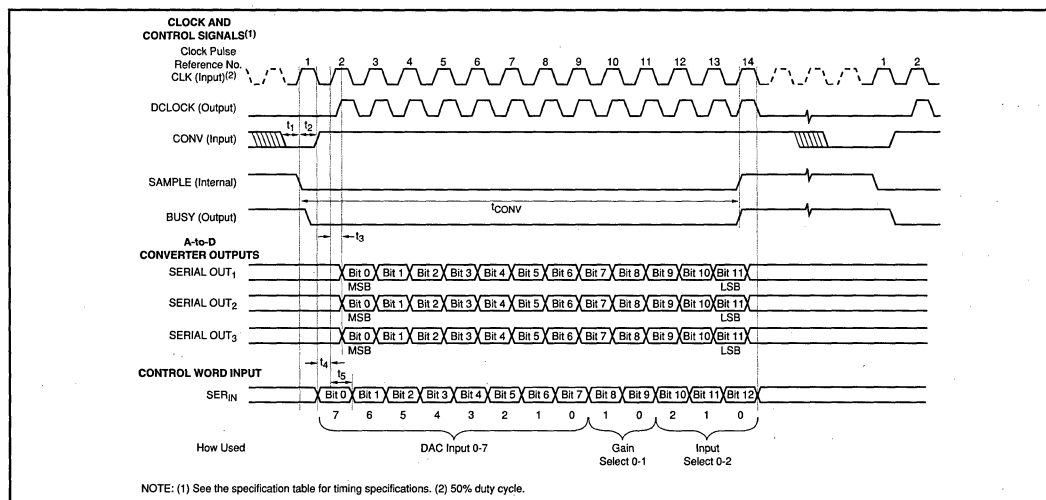

FIGURE 2. Timing Diagram.
The ADS7833 contains seven sample holds. Five of them (SH₁ through SH₅) sample simultaneously and have their sample/hold timing internally synchronized. (The timing is shown in Figure 2).
An 8-bit DAC provides 256 output voltage levels from 0V to 2.5V (see Table V for input/output relationships). The DAC is controlled by the DAC Input portion of the input setup word. The DAC Input portion of the word is strobed into the DAC at the end of the conversion cycle (14th CLK pulse in Figure 2).
Sampling and conversion is controlled by the CONV input (see Figure 2). The ADS7833 is designed to operate from an external clock supplied at the CLK input. This allows the conversion to be done synchronously with system timing so that transient noise effects can be minimized. The CLK signal may run continuously or may be supplied only during convert sequences. The BUSY and DCLOCK signals are internally generated and are supplied to make interfaces with microprocessors easier (see Figures 2, 4, and 6).
Configuration information for these parameters is contained in the SER_{IN} word (See Figure 2). As one conversion is taking place, the configuration for the next conversion is being loaded into the buffered Input Setup Register via the SER_{IN} word. Table I shows information regarding these parameters.
NOTE: (1) See Figure 2. "Clock Pulse Reference No."
The PGA gain is determined by the Gain Select portion (bits 8 and 9) in the SER_{IN} word (see Figure 2). There is one gain input that sets the same gain for all three PGAs. The gain values and allowable full scale inputs are shown in Table II.
The Input Select portion of the SER_{IN} word (bits 10, 11 and 12) (see Figure 2) are decoded and determine the open/closed condition of the multiplexer switches. This in turn determines which input signals are connected to the sample holds and which sample holds are connected to the PGAs/ADCs.
The value of the DAC output voltage is determined by the DAC input portion of the SER_{IN} word (bits 0 through 7—see Figure 2). The 8-bit DAC has 256 possible output voltages from 0V to +2.49V. The value of 1 LSB is 0.0098V.